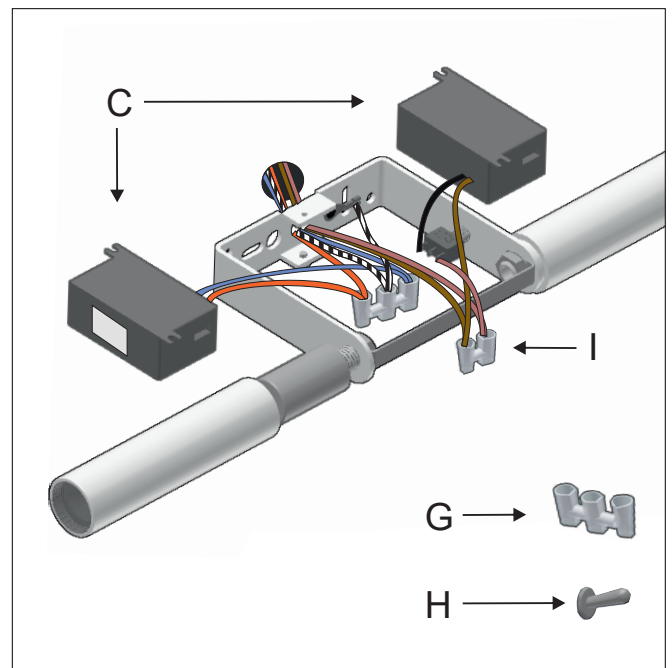

Figure 4A
4 - Connect the network cables to the corresponding forbox respecting the connections that join the drivers (C) with the forbox and the push button (H). Each light spot that comes from the wall has its own forbox to make the connections. The ground cable is connected to the input of the forbox (G) that contains the green and yellow cable. It must be kept in mind that the inversion of the phase and neutral cables does not imply any change in the operation of the electric current. Figure 4A.
**On/Off switch:** The network cables that are directly connected to the electric current must be connected to the forbox (I) that joins the driver and the switch. Forbox not supplied.
**Ambient light:** The network cables that come from the wall switch must be connected to the supplied forbox (G) that contains the ground cable.